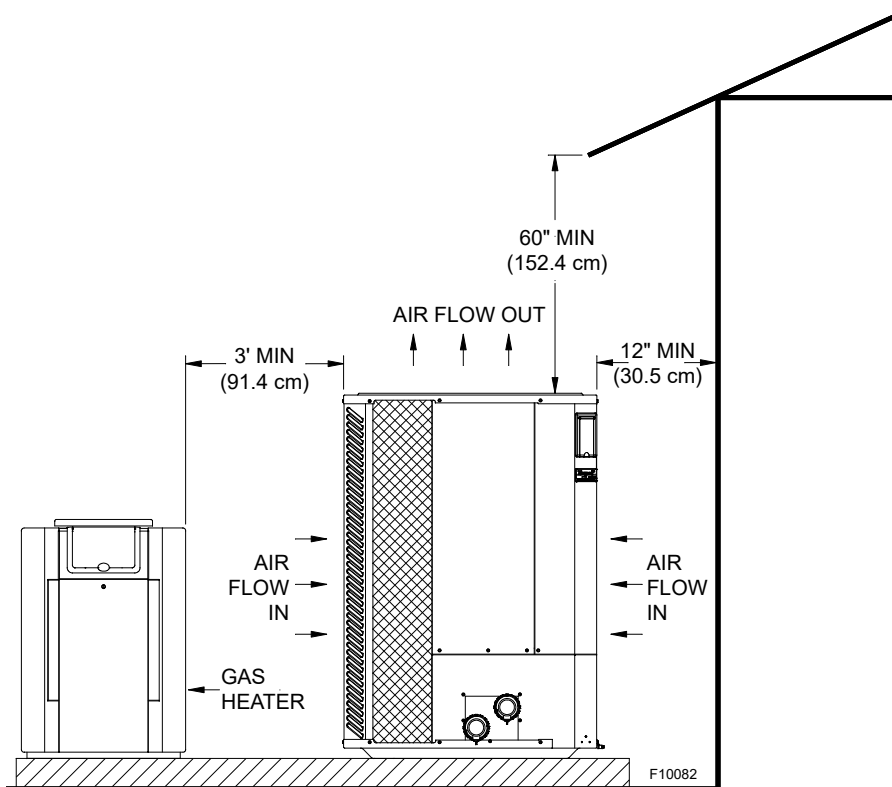

Figure 1. Installation Clearances
- This unit features an 'up-flow' discharge for quiet operation. Air is pulled up through the evaporator coil and discharged through the top grill. Allow at least 5 ft (1.5 m) clearance above the unit for unrestricted air discharge. DO NOT install the unit under a porch or deck. Refer to **Figure 1** for installation clearances.